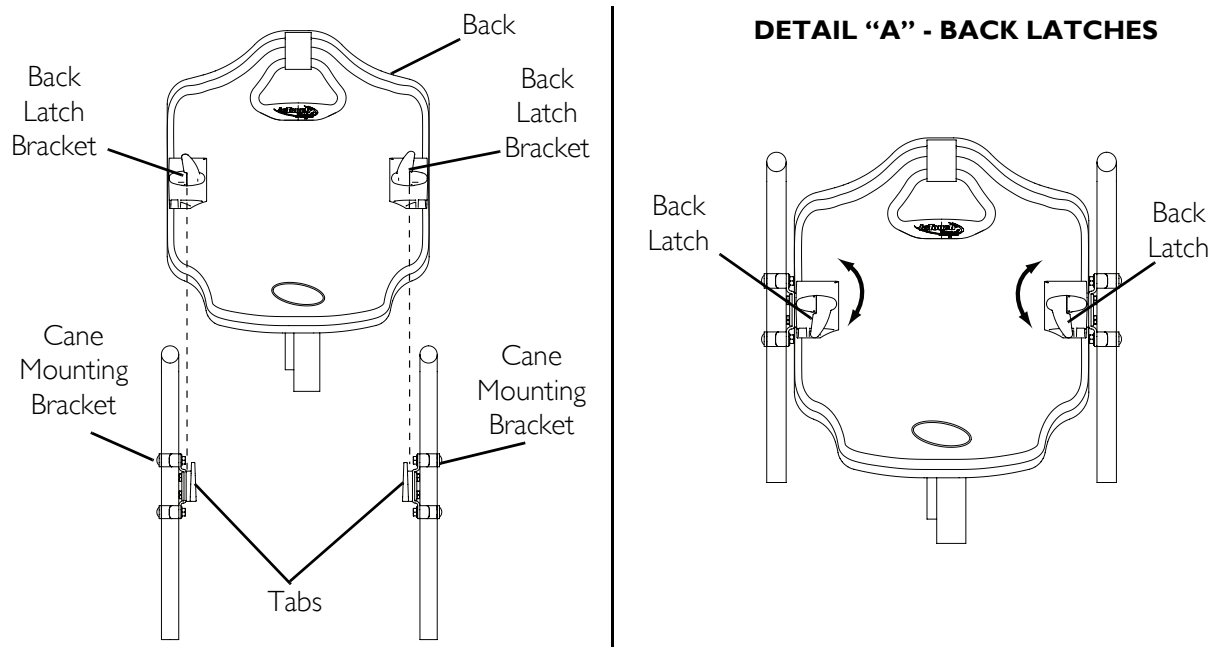

FIGURE 2.3 Installing/Removing the Propel Back
NOTE: For this procedure, refer to FIGURE 2.3 on page 11.
4. Push the back latches down (locked position) to secure the back to the tabs. Refer to Detail "A" of FIGURE 2.3.